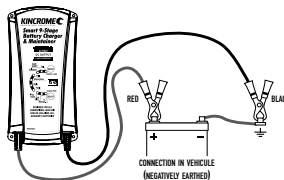

Fig 2
- FIRST Connect the BLACK (-) Crocodile clip or optional ring terminal lead to the (-) battery terminal and then connect the RED (+) Crocodile clip or optional ring terminal lead to the vehicle's chassis (Fig 2).